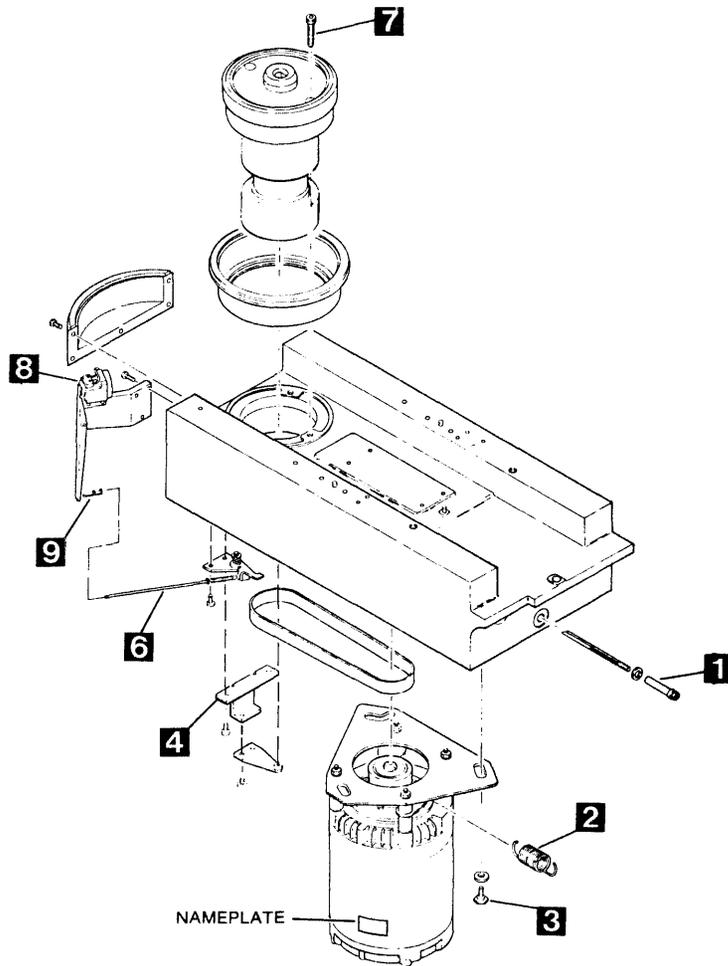

FIGURE 4-16. DRIVE MECHANISM
7. Loosen drive belt adjustment nut, [1] in Figure 4-16, and remove the drive belt from the motor pulley by "walking the belt upwards" from the left of the pulley and working it out of the motor plate. Let the belt hang loose from the spindle pulley.
9. Place a "spacer" (like that shown in Figure 4-15) on cabinet floor under motor. With this spacer capable of supporting the weight of motor, remove three bolts, [3] in Figure 4-16, holding drive motor to deck plate.
2. Remove spindle grounding assembly, [4] in Figure 4-16.
3. Remove spindle grounding assembly, [4] in Figure 4-16.